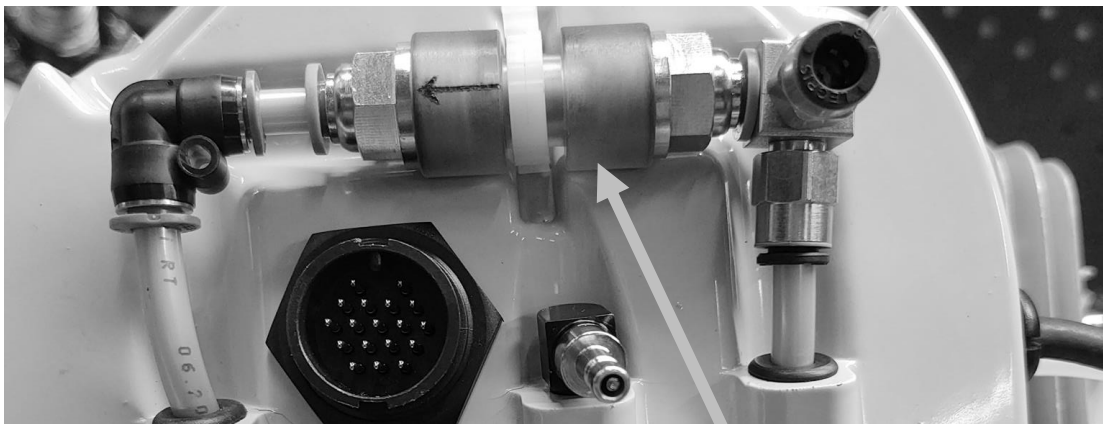

Figure 10. Fuel Filter Location
2. The 10 micron filter is part of the GenPod® and can be found on the back bulkhead. It resides between the fuel pump and the engine. See **Figure 10** for location.